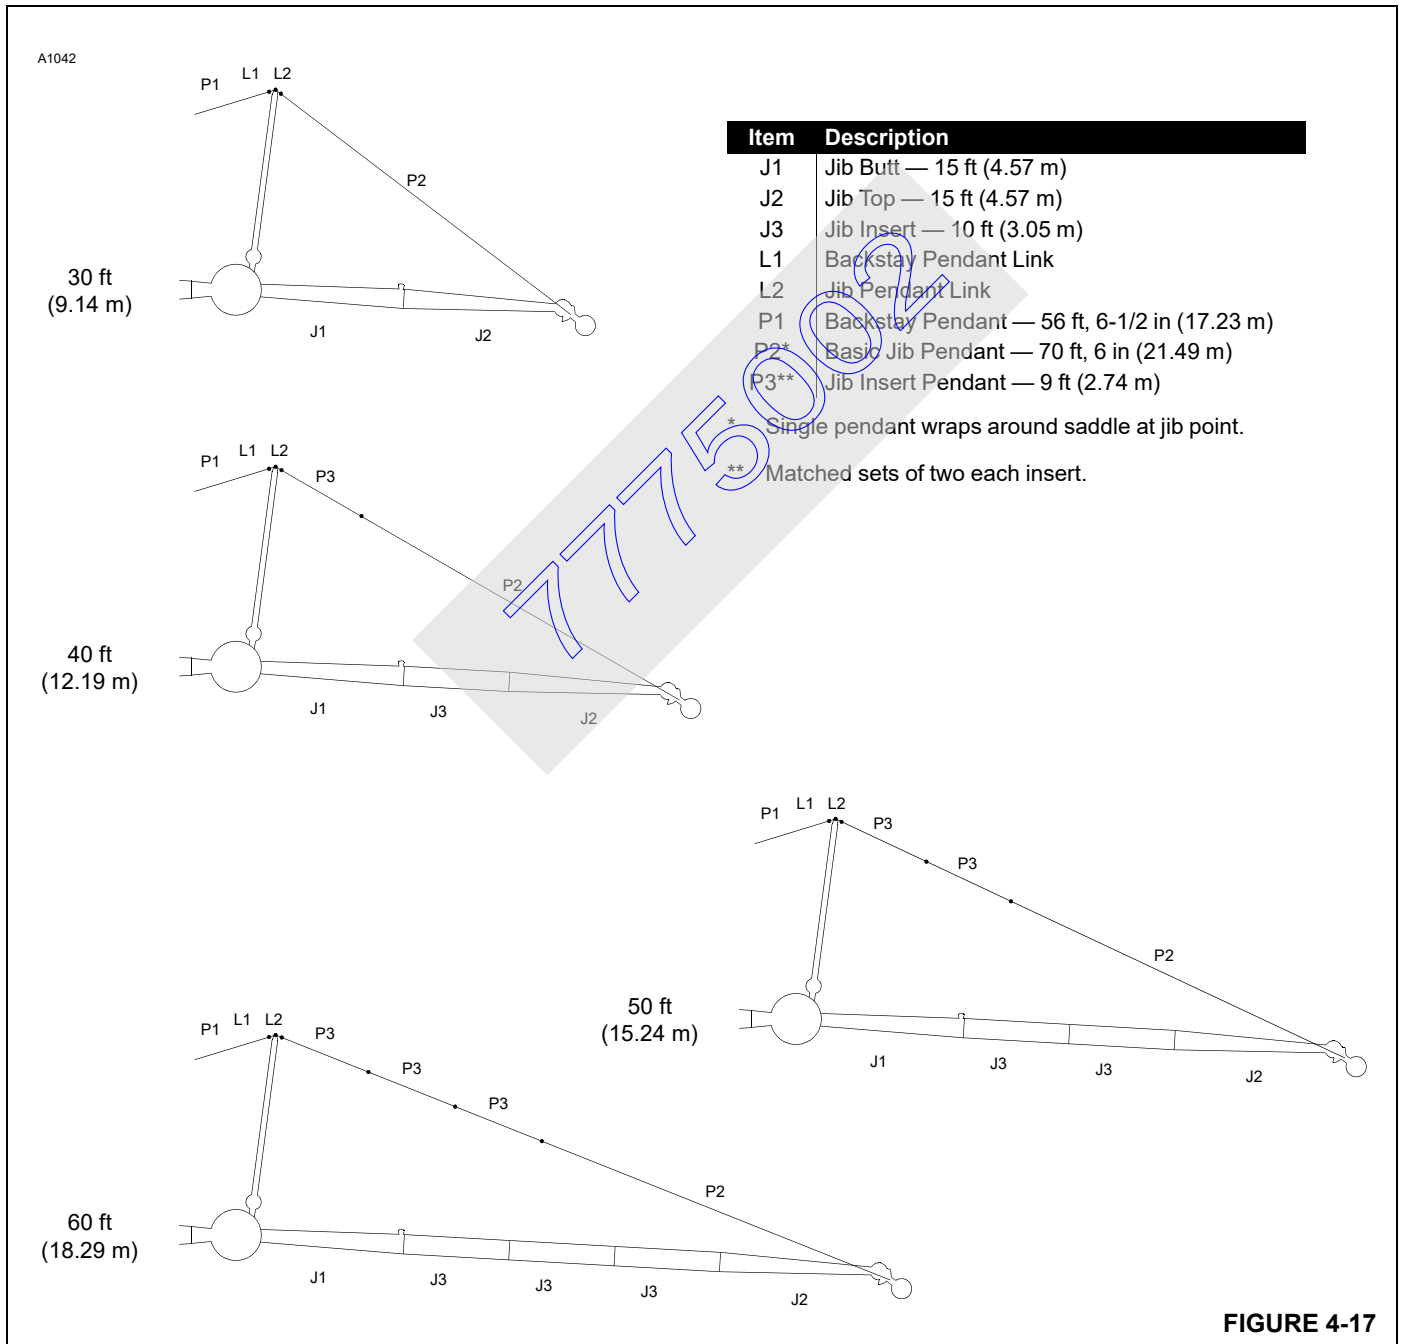

FIGURE 4-17
The jib consists of a 15 ft (4.57 m) butt and a 15 ft (4.57 m) top, providing a basic length of 30 ft (9.14 m). Inserts are available to assemble additional jib lengths of 40 – 60 ft (12.19 – 18.29 m) as shown in Figure 4-17.
Jib components (top, inserts, butt, pendants) must be assembled in proper sequence according to this topic and the Jib Assembly Drawing. See Figure 4-17 to determine quantity and length of inserts and pendants required for various jib lengths.
4. If required, pin jib insert pendants (P3, Figure 4-17) to basic pendant (P2).